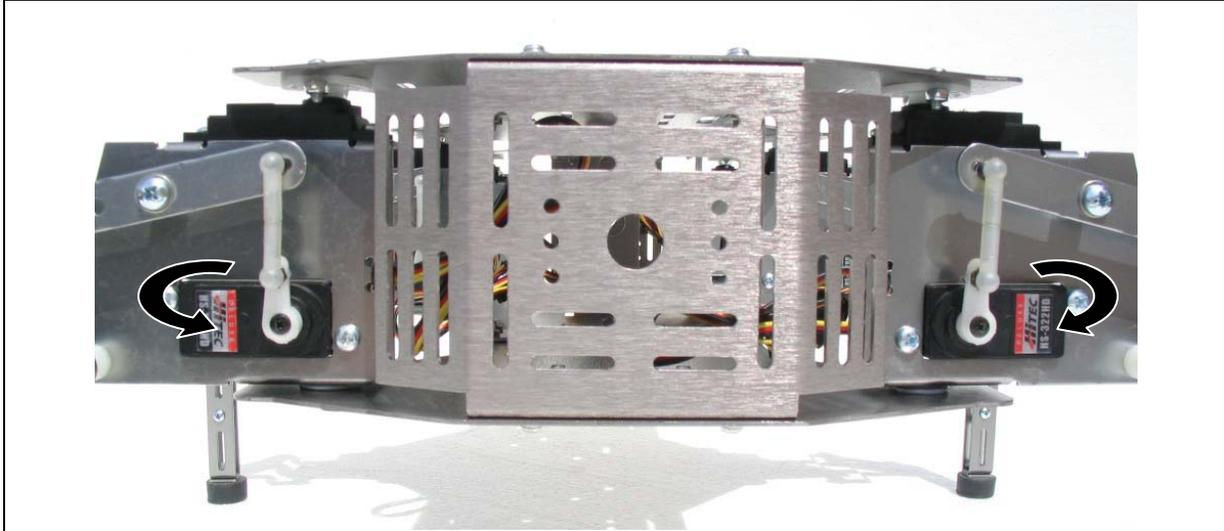

Figure 51: Servo Configuration – Starting Position
6. **This is one of the most important steps in this manual.** Facing the front of the HexCrawler so the servo horns are showing, gently turn and re-install as necessary the servo control horn (keep the screw off for the moment) so that it swings from 11 to 7 o'clock in the **clockwise** direction for the legs on the HexCrawler's **right side** and from 1 to 7 o'clock in the **counterclockwise** direction for the legs on the **left side** of the HexCrawler (see Figures 51 and 52 below).